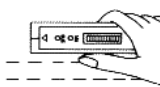

Fig. 7
3.3.9 To locate horizontal battens or studs, place the unit on the wall as shown in Fig. 7 and use the method outlined above.